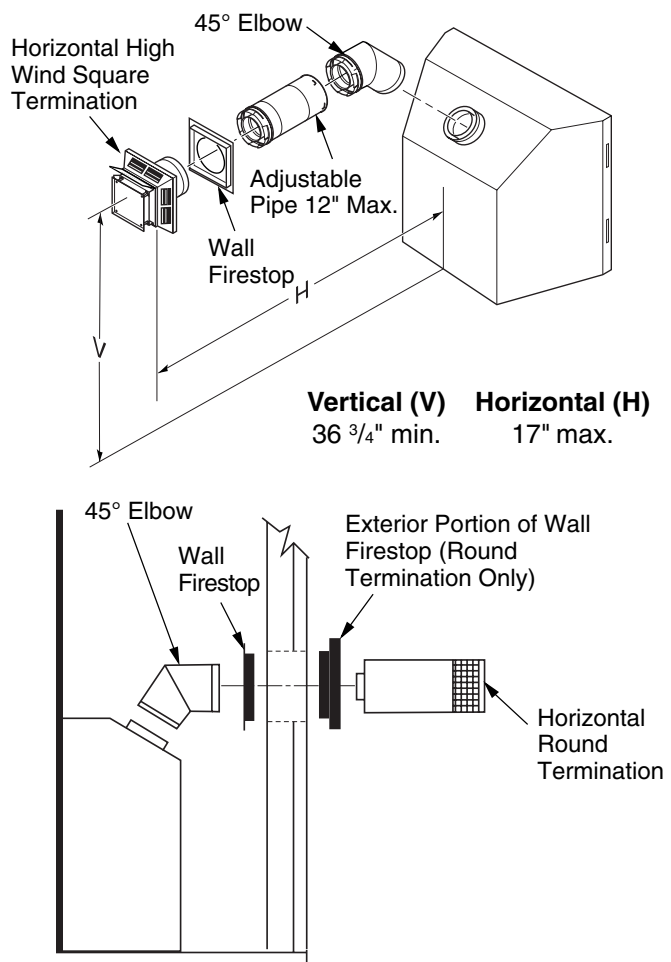

Figure 14 - Horizontal Termination Configuration for Square or Round Terminations
IMPORTANT: Horizontal square terminations require only inner portion of wall firestop. Horizontal installations using round termination require exterior portion of wall firestop available only in vent kit 01491 for V and VV Series or SDHTRK-58 for CHDV Series (see Figure 14, page 10).
1. Set the fireplace in its desired location and determine the route your horizontal venting will take. Do not secure the fireplace until all venting has been installed. Some installations require sliding the fireplace in and out of position to make final venting connections. Figures 14 through 18 on pages 10 through 12 show different configurations for venting with horizontal termination that will help you decide which application best suits your installation. Check to see if wall studs or roof rafters are in the path of your desired venting route. If they are, you may want to adjust the location of the fireplace.
Figures 14 through 18 show different configurations and alternatives for venting with horizontal termination. Each figure includes a chart with critical minimum and maximum dimensions which **MUST** be met. **IMPORTANT:** Remember that a horizontal run of venting must have a 1/4" rise for every 12" of run toward the termination.